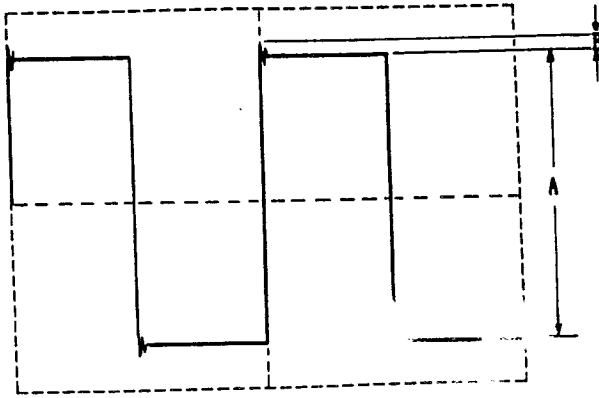

Figure 21
- C. Adjust VR431, VC405, VC322, and VR151 until you obtain a waveform like the one shown in Figure 21. The following condition must be met: $(B/A) \times 100\% \leq 3\%$.